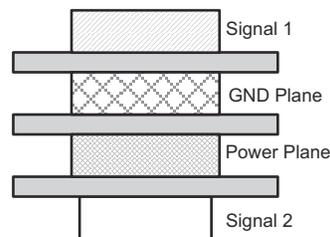

Figure 9-3. Four-Layer Board Stack-Up
8. Due to high frequencies associated with the USB, a printed circuit board with at least four layers is recommended; two signal layers separated by a ground and power layer as shown in Figure 9-3.